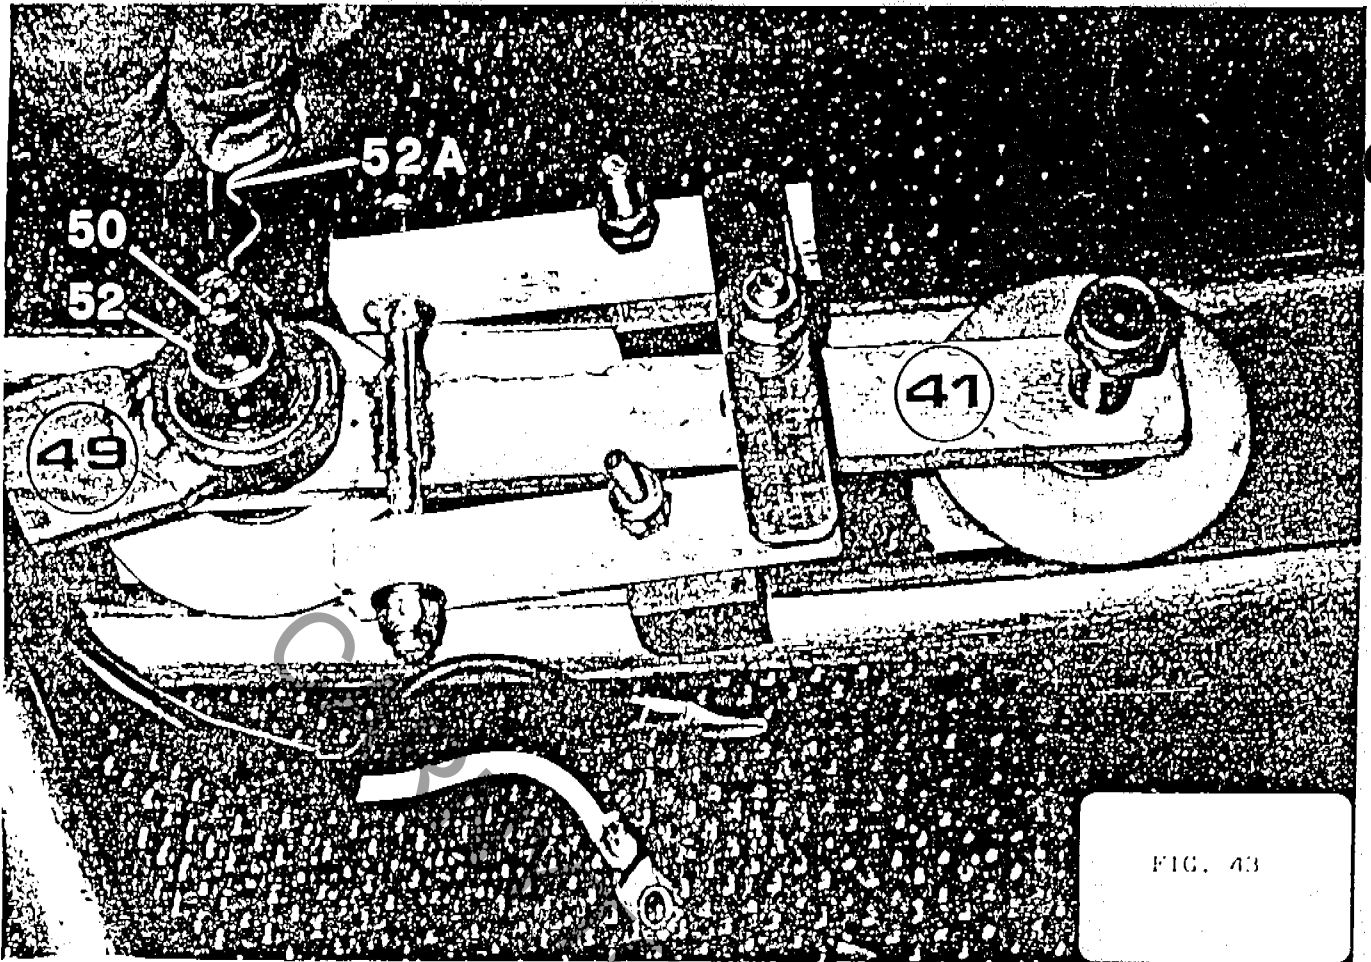

FIG. 43
START WITH THE FIRST ONE, BRING THE CARS ON THE RAISED TRACK AND FIX THEM TO THE DRAGGING TRUCKS (41) (Fig. 43), INSERTING THE STUD (50) (Fig. 43) IN THE BEARING (49) (Fig. 43) OF THE STEERING BAR AND BLOCK THE CAR WITH THE WASHER (52) (Fig.43) AND THEN WITH THE SAFETY SPLIT PIN (52A) (Fig. 43).